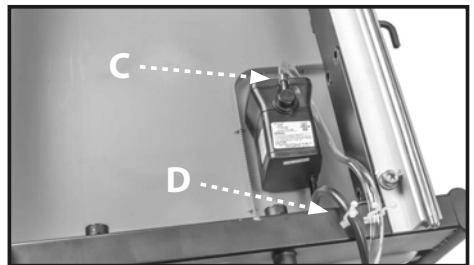

FIGURE 16
2. Attach the free end of the water hose into the outlet nipple (C, Fig. 16) on the submersible pump (14).
4. Secure the slack in the water hose and pump's power cord to the tool using the provided snap ties (D, Fig. 16).